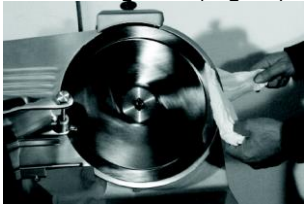

Figure 11
8. Insert the cloth between the blade and the blade ring guard. Pull the cloth outwards and rotate it to clean the internal side of the blade guard (Fig.11)